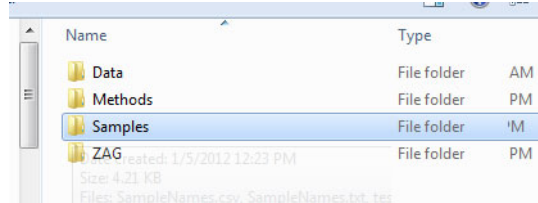

Figure 95 Samples folder
- 1 Place the sample name files into the C:/Agilent/Samples folder. If a folder does not exist, create a new *Samples* folder (**Figure 95**). The sample name file can be either a .txt file or .csv file (using the formats described in section “**Importing Sample Names**” on page 118). The sample name files are created by the user or automatically by a LIMS system.